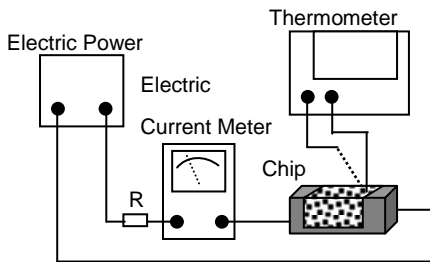

Fig. 5.3.3-1
- d. Definition of Rated Current (I_r): I_r is direct electric current as chip surface temperature raises just 20°C. against chip initial surface temperature(T_a). (see Fig. 5.3.3-2):